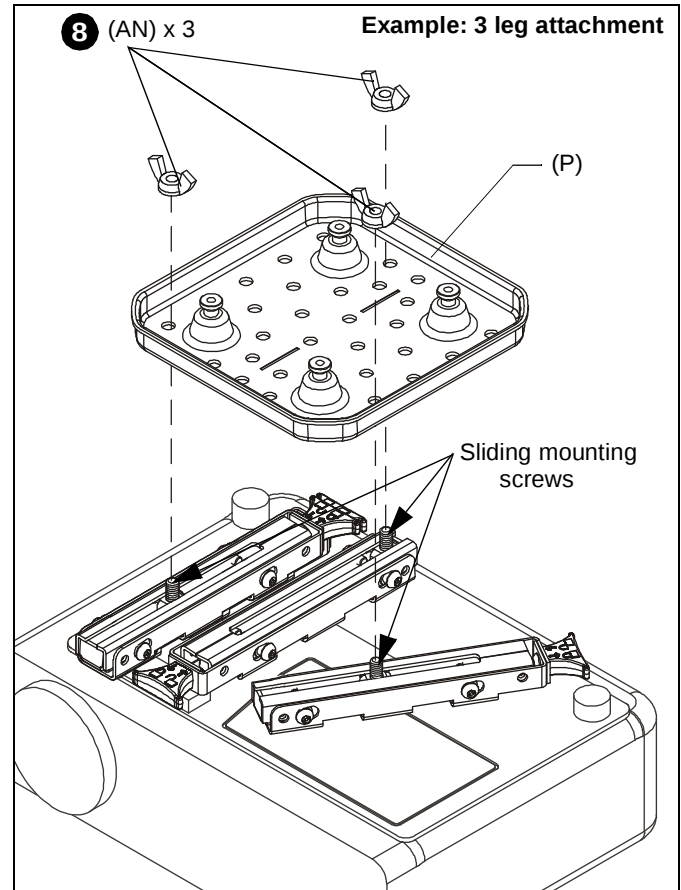

Figure 5
8. Maneuver interface legs (Q) and slide mounting screws in top of interface legs so that mounting screws are properly located to mount universal interface plate (P) over projector's center of gravity via attachment to interface legs. (See Figure 5)
9. Secure interface plate to interface legs by installing 1/4-20" wing nuts (AN) to screws on interface legs. (See Figure 5)